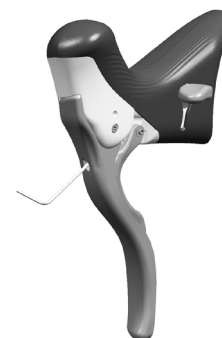

Fig.4
- Insert a 2.5 mm Allen wrench into the Y hole to reach the grub screw (Fig. 4).